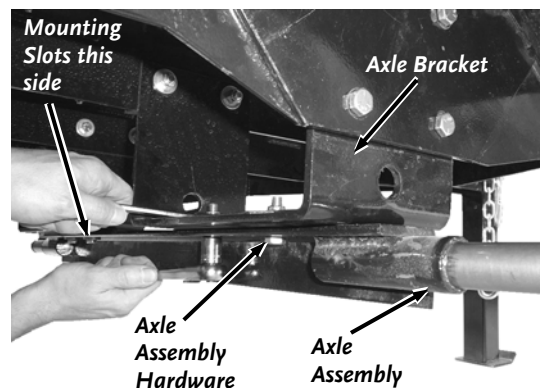

Figure 59
10. Position the new Axle Assembly under the Chipper and secure it to the Axle Brackets with two Bolts, Locknuts and Washers (on the side with slots) and two Bolts and Locknuts (on side with holes) using two 9/16" wrenches (**Figure 59**).